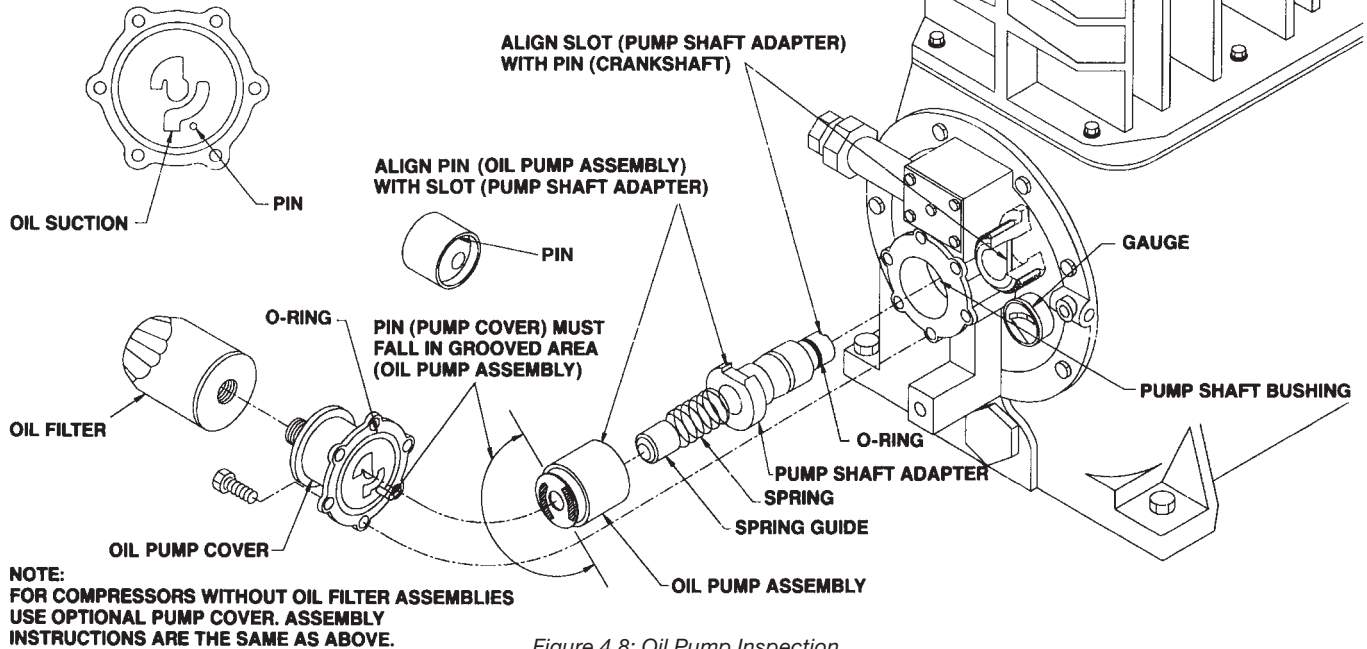

Figure 4.8: Oil Pump Inspection
1. To check the oil pump, unbolt the pump cover and remove the oil pump, spring guide, spring and oil pump shaft adapter as shown in figure 4.8.
4. Before reassembling the oil pump mechanism, replace the O-rings in the oil pump cover and on the oil pump shaft adapter (see figure 4.8).
8. Install the pump cover so the pin on the case is in the opening on the oil pump assembly as shown in figure 4.8. When you are sure the pin is properly aligned,